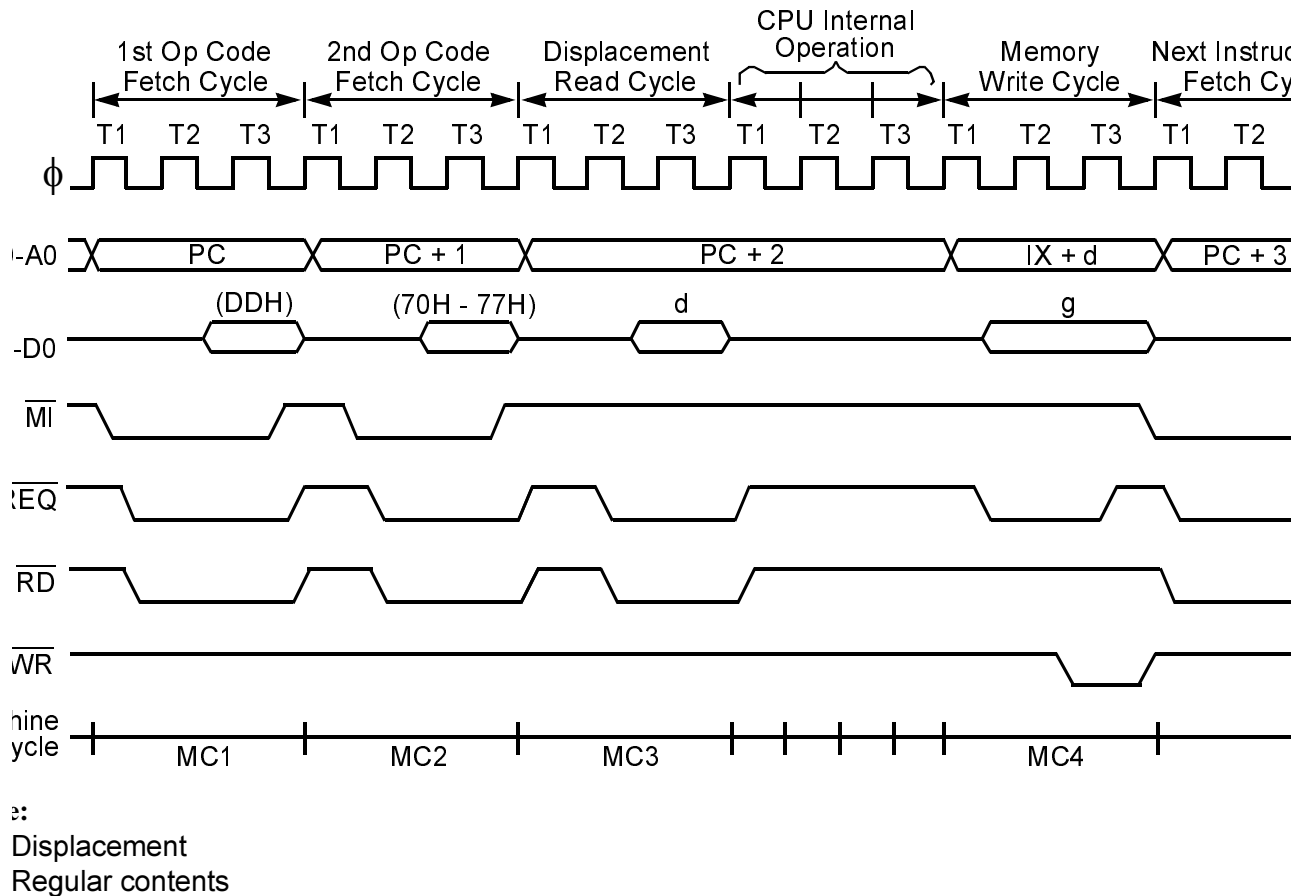

Figure 7. Instruction Timing
Figure 7 illustrates the bus timing for the data-transfer instruction (LD (IX+d),g). This instruction moves the contents of a CPU register (g) to the memory location with address computed by adding a signed 8-bit displacement (d) to the contents of an index register (IX).